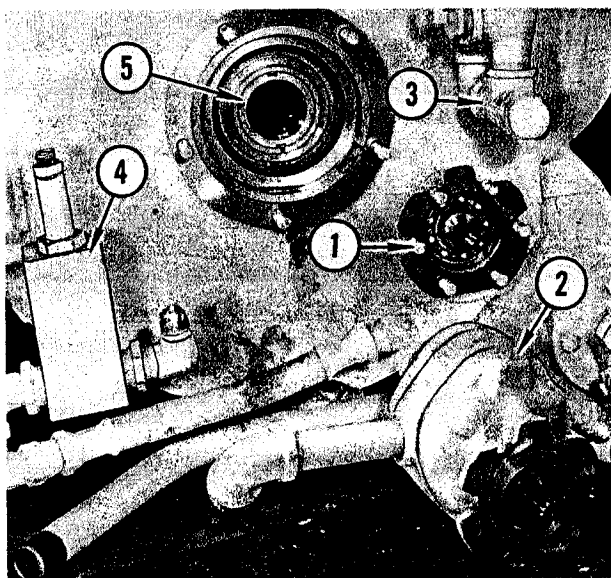

FIGURE 27. PUMP AND REACTOR SLEEVE REMOVAL
Refer to Figure 27. Remove oil lines from pump and relief valve fittings. Remove nuts and lockwashers from pump retaining
Refer to Figure 27. Drill stake from sleeve retaining locknut (5). Remove locknut with special wrench. If special wrench is not available, use a spanner wrench. Remove sleeve and hub from open side of converter.
Reverse the numerical sequence of disassembly as shown in Figures 27 and 28 and the following information: